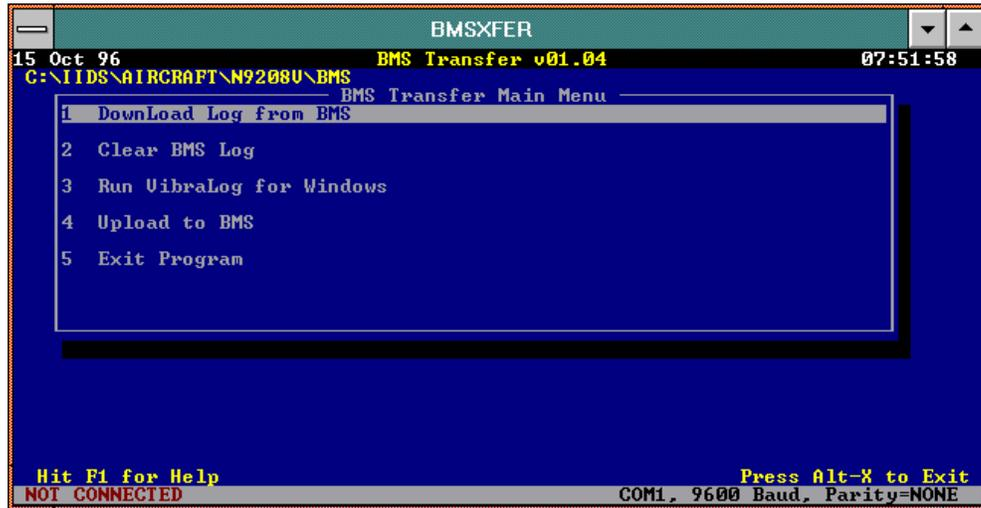

Figure 61. BMS Application Main Menu Screen
The screen will now switch to character mode for the BMS program and the BMS menu will appear (refer to Figure 61).
2. Select DownLoad Log from BMS option bar using the ( ↑ ↓ ) arrow keys and press the ENTER key or, press the number “1” and press ENTER (refer to Figure 61).
2. Select Clear BMS Log option bar using the (↑↓) arrow keys and press the ENTER key or pressing the number “2” and press ENTER (refer to Figure 61).
2. Select Upload to BMS option bar using the (↑↓) arrow keys and press the ENTER key or pressing the number “4” and press ENTER. (refer to Figure 61)